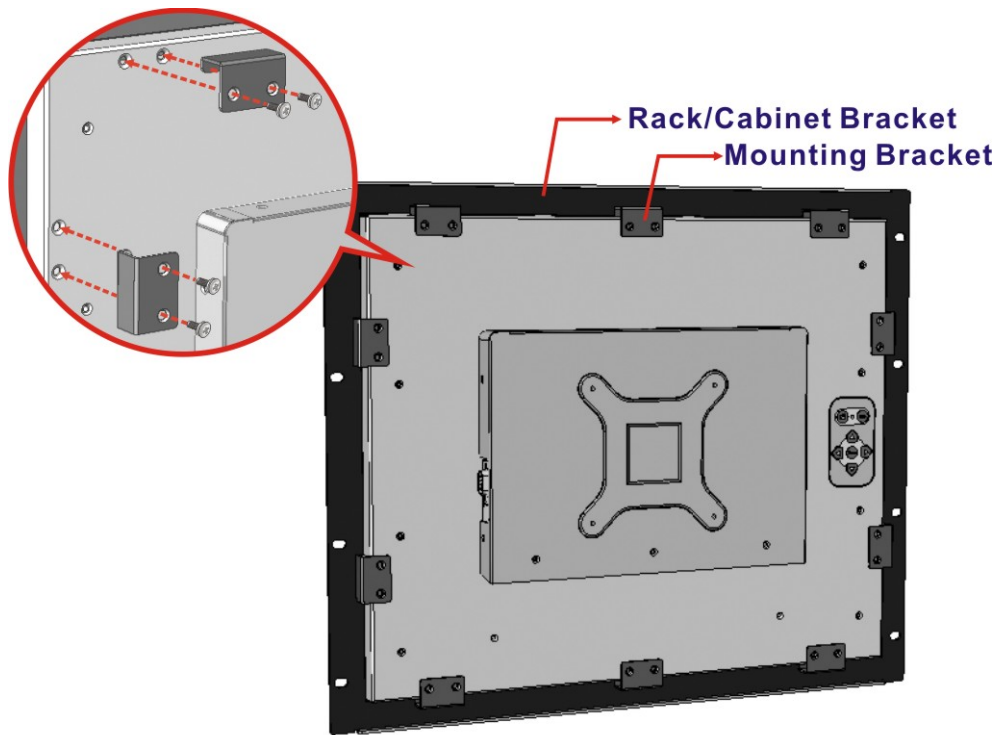

Figure 3-35: Secure the Mounting Brackets
Step 2: Secure the rack/cabinet bracket to the monitor. To do this, secure the 10 mounting brackets to the corresponding screw holes on the rear of the monitor using the provided retention screws (**Figure 3-35**).